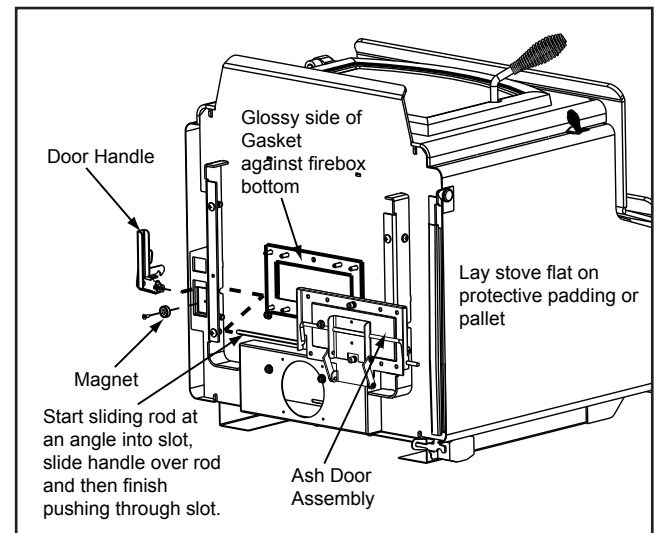

Figure 21.2
It is important the gasket is not put on upside down as it could compromise its sealing capabilities. Figure 21.2.
Slide the ash door over the 8 screws protruding from the bottom of the stove. Secure with nuts and washers provided. **Figure 21.2.**
6. Install magnet using a Phillips head screw driver. This magnet will hold the door handle in an open position which in turn holds the ash door open so ashes can be brushed into the ash drawer. **Figure 21.2.**
1. Follow steps 1 through 6 on **page 22**. See also **Figures 21.2 and 21.3**.